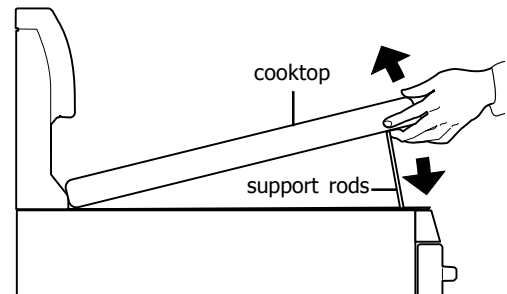

Fig. 1
1. Grasp the sides and lift from the front (See Fig. 1). Lift-up rods will support the top in a raised position. Only lift the cook top far enough to allow the support rods to snap into place.